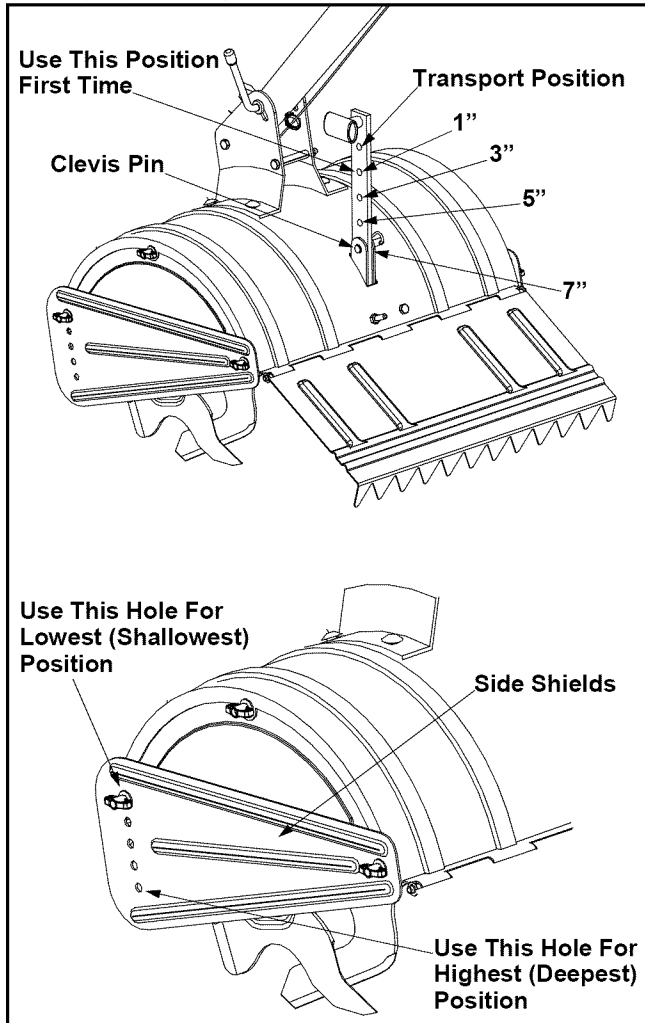

Figure 10
- When using the tiller for the first time, use the second adjustment hole from the top (1" of tilling depth). See Figure 10.
To adjust the depth stake, remove the clevis pin and hairpin clip. Move the depth stake to the desired setting and secure with the clevis pin and hairpin clip. See Figure 10.